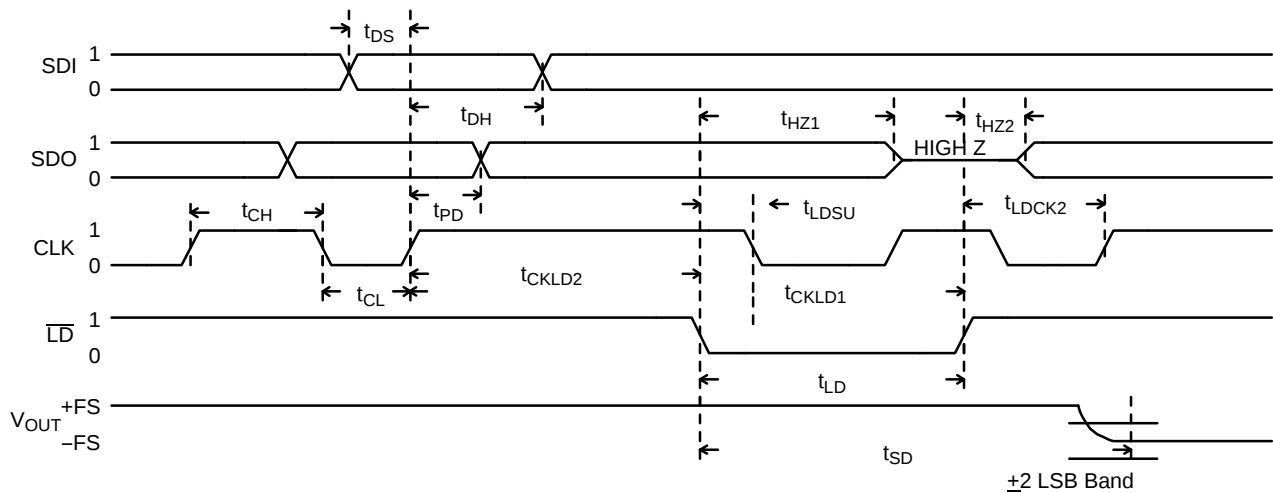

Figure 2. Serial Data Input Timing (RST = "1")
- ⁴ See Figures 2 and 3. All digital input signals are specified with $t_{\text{R}} = t_{\text{F}} = 10 \text{ ns}$ 10% to 90% and timed from a 50% voltage level.